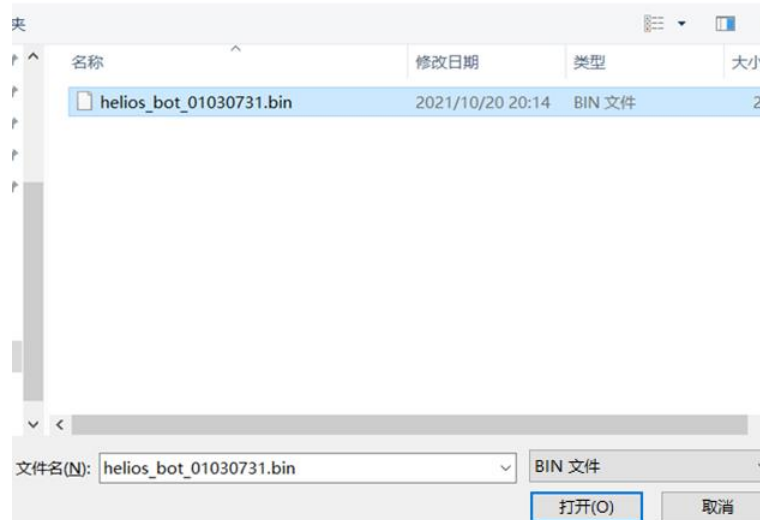

Figure 23 Step 2 - Select Firmware for Upgrade
- 2) Select the folder containing the corresponding firmware for the upgrade, then click "Open" (avoid using Chinese characters in the file path), as shown in Figure 23 .